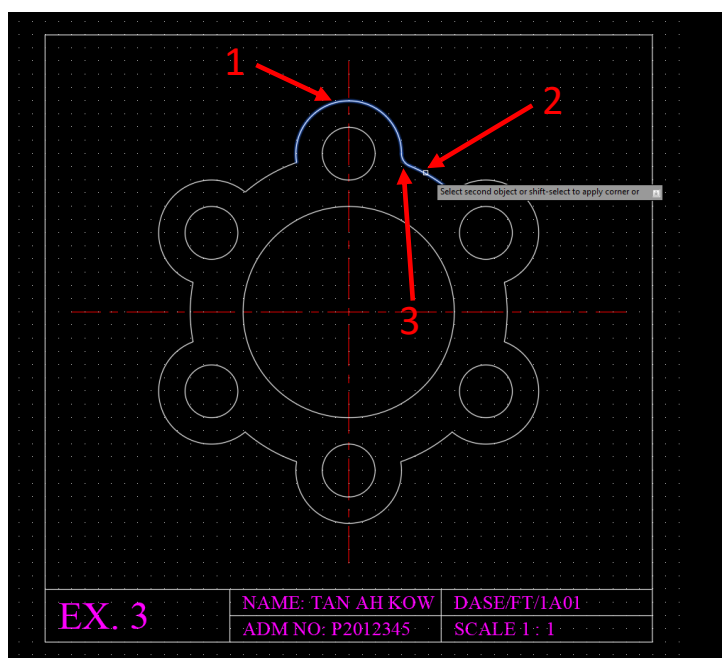

Fig 31
- xxxiii. Select first object= **click outer bolt ring (1)**, select second object = **click outer ring gasket (2)** as indicated in blue and 5mm fillet **(3)** can be seen in fig 31